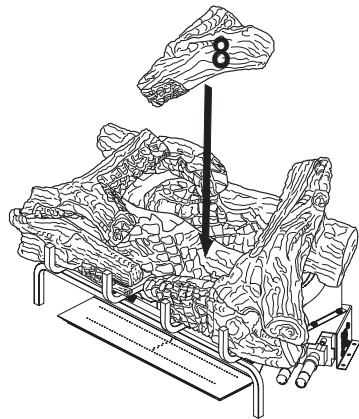

Figure 38- Installing Log # 8
It is very important to install the logs exactly as instructed. Do not modify logs. Only use logs supplied with heater or as identified for use with the heater as shown in Figure 38.
8. Match the round hole on the bottom of the center crossover log (#8) with the metal pin on the top of the right crossover log. Rest the front of the center crossover log on top of the front right log and against the grate. See Figure 38.